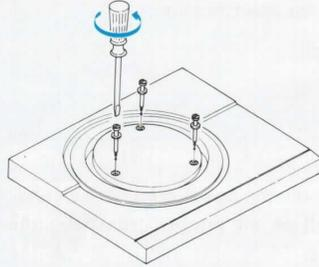

Fig. 2
- a. Carefully unpack the unit and other parts. Remove the dust cover and all packing material from around the turntable. Be sure to remove three shipping screws as shown in Fig. 2. *NOTE: Whenever you re-ship, fasten the screws for protecting the floating mechanism section.*